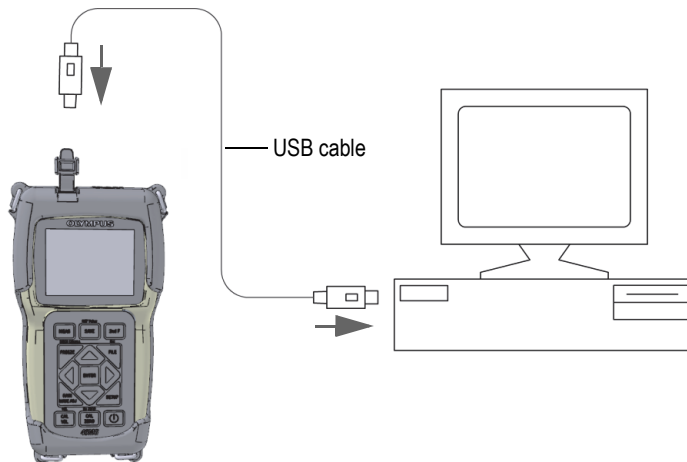

Figure 11-1 Connecting the 45MG to a computer
4. Connect one end of a USB cable to the USB client connector on the top of the 45MG, and connect the other end to a USB port of the computer (see Figure 11-1 on page 188).